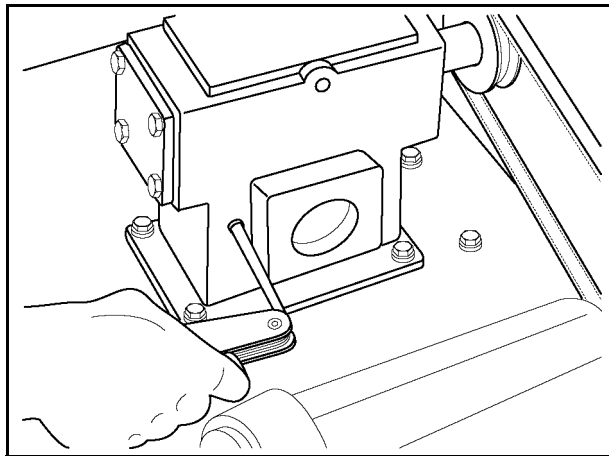

Figure 7J
- Check the oil level in the gearbox by removing the plug and noting if the oil is at this level. Add SAE 80-90 gear lubricant if required. \(See Figure 7J\)